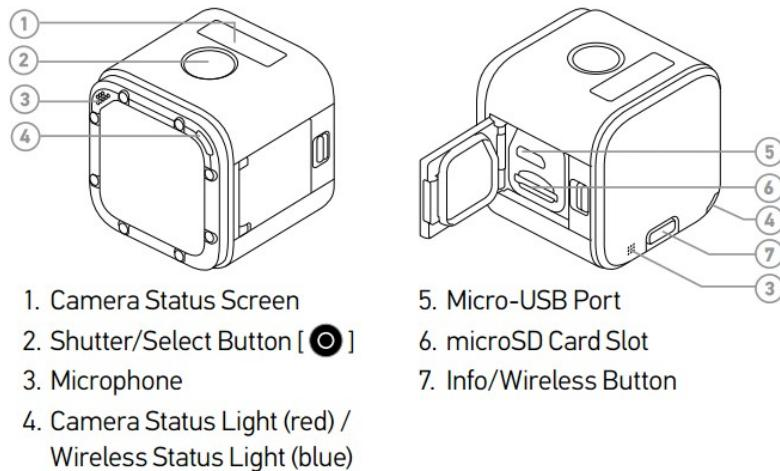

Figure 14: GoPro[©] HERO4 SessionTM Camera Parts
- Connect the camera to the computer via a micro USB cable (See Figure 14)
- Refer to Figures 14 and 15 for camera and tablet setup